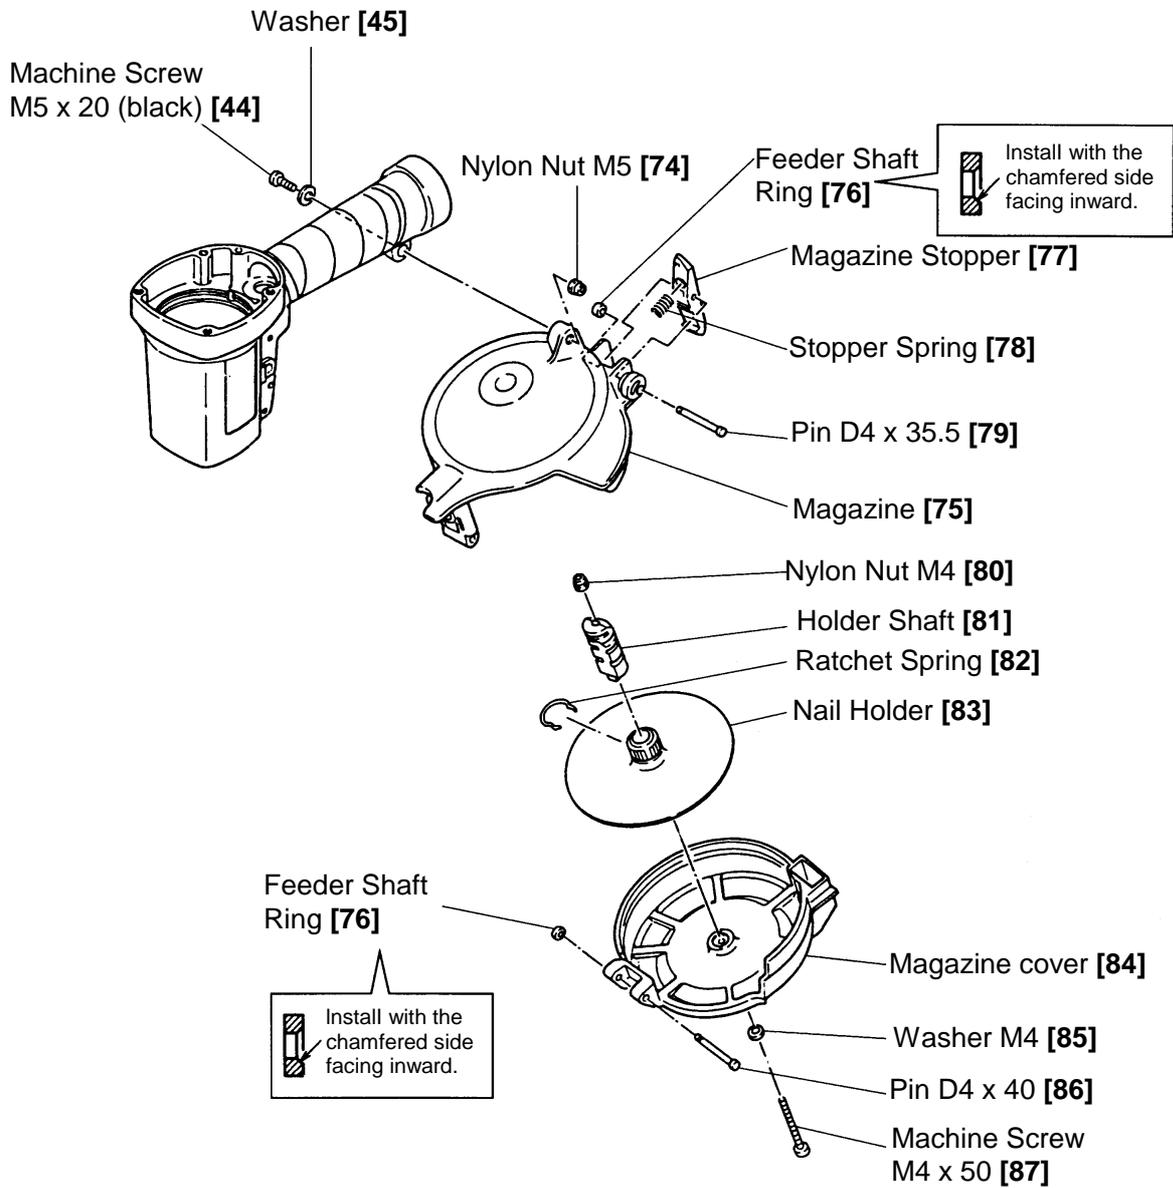

Fig. 25 Disassembly and reassembly of the magazine section
(2) Disassembly and reassembly of the magazine section (See Fig. 25)
(3) Disassembly and reassembly of the Magazine Stopper [77] (See Fig. 25)
- Mount the Feeder Shaft Ring [76] facing the chamfered side inward as shown in Fig. 25.
(4) Disassembly and reassembly of the Magazine Cover [84] (See Fig. 25)
(5) Disassembly and reassembly of the Nail Holder [83] and the Holder Shaft [81] (See Fig. 25)